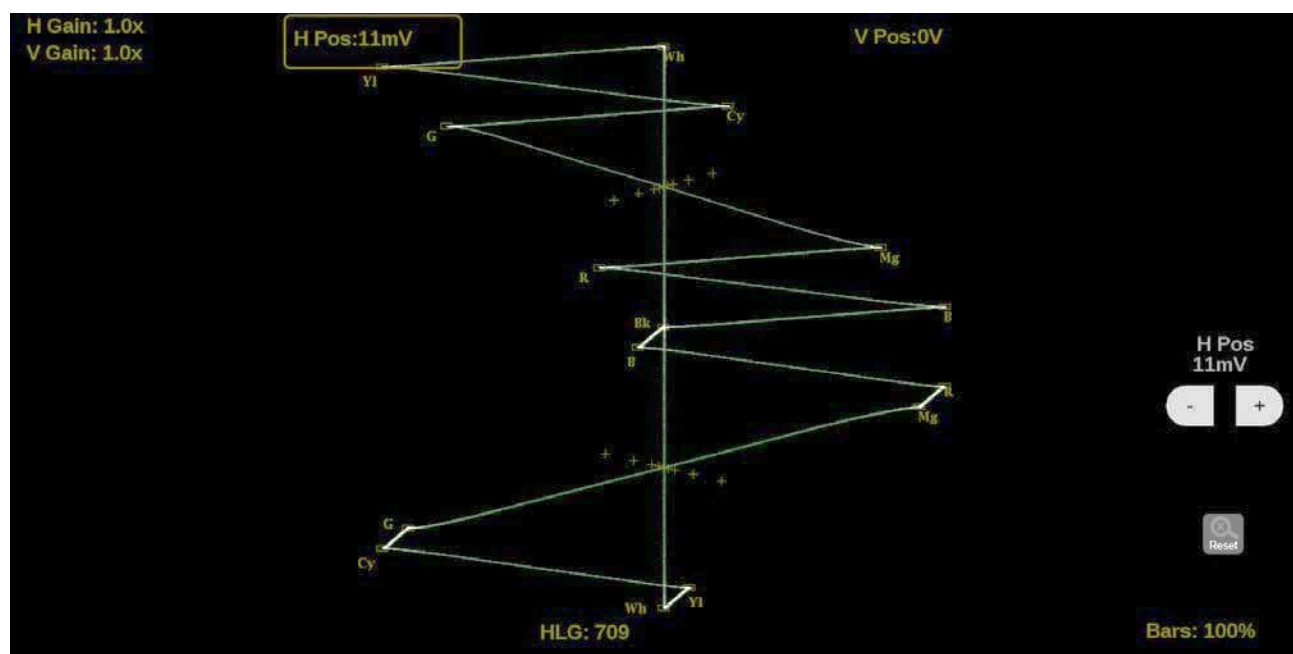

Figure 215: Lightning on-screen tools – horizontal position
1. Select the **H Pos** button to allow adjustment of the horizontal trace. (See Figure 215.)